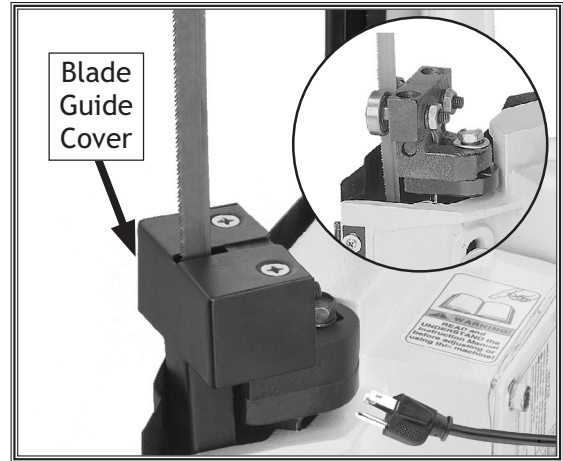

Figure 23. Blade guide cover.
2. Remove the two flat head screws and the blade guide cover shown in **Figure 23**.